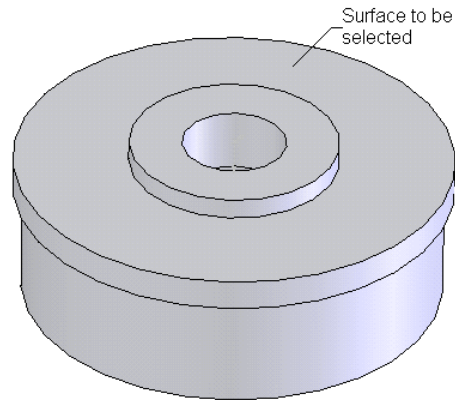

Figure 7-80 Surface to be selected
3. Using the **Up To Surface** option extrude the sketch. The surface to be selected is shown in Figure 7-80.